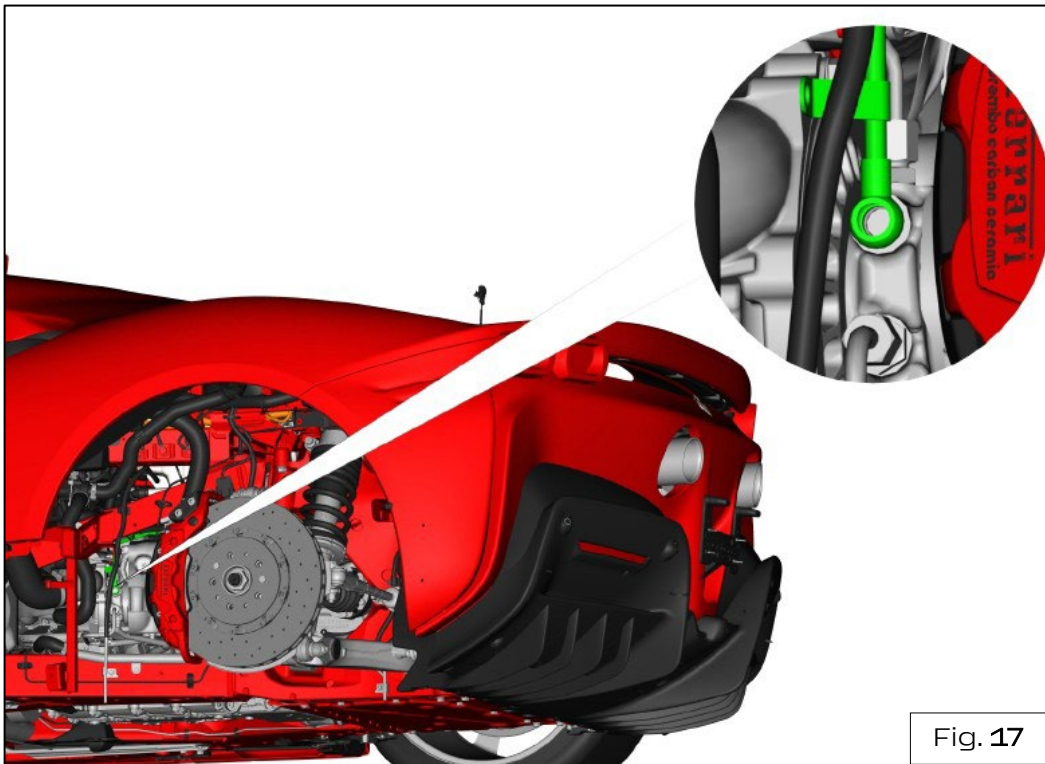

Fig. 17
- Connect the LH turbocharger water return pipe by replacing the respective gasket - Fig. 17.